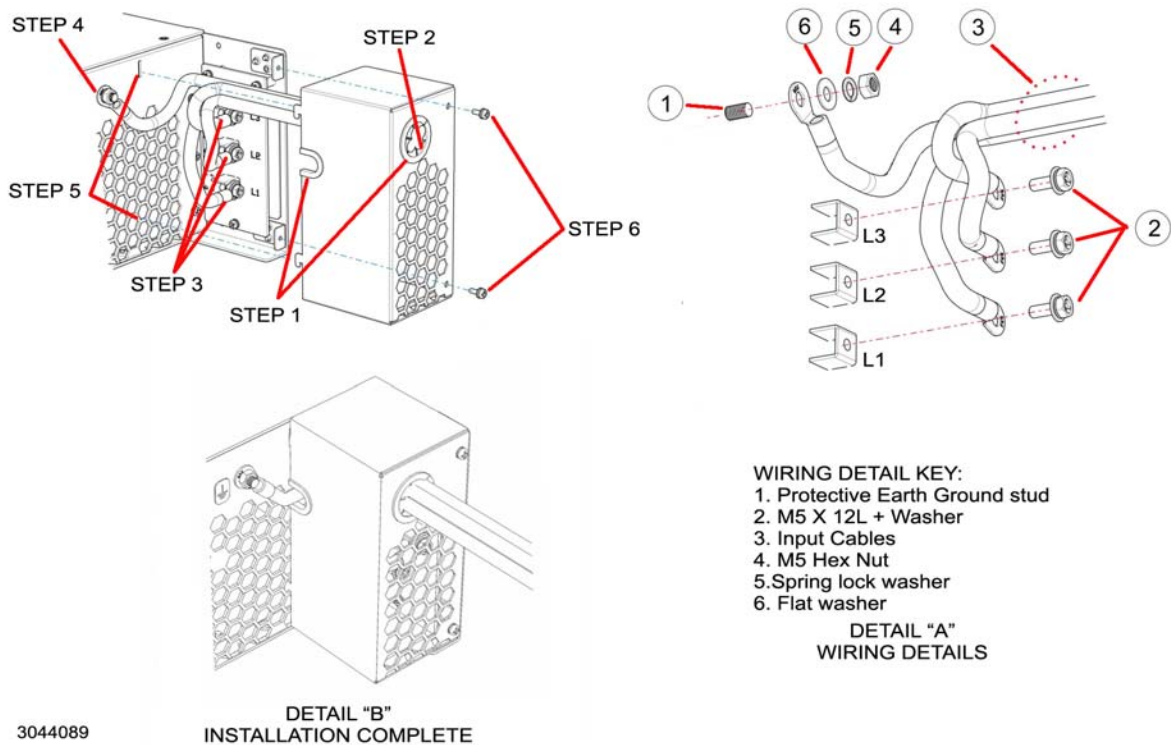

FIGURE 2-3. INPUT WIRING AND INPUT COVER INSTALLATION
To install the Input Protective Cover refer to Figure 2-3 and proceed as follows:
3. Secure the cables to the L1, L2, L3 and ground terminals as shown in Figure 2-3, Detail A.
6. Use two M3X8 screws to secure the cover to the chassis bracket. Verify the cover installed is installed as shown in Figure 2-3 Detail B.